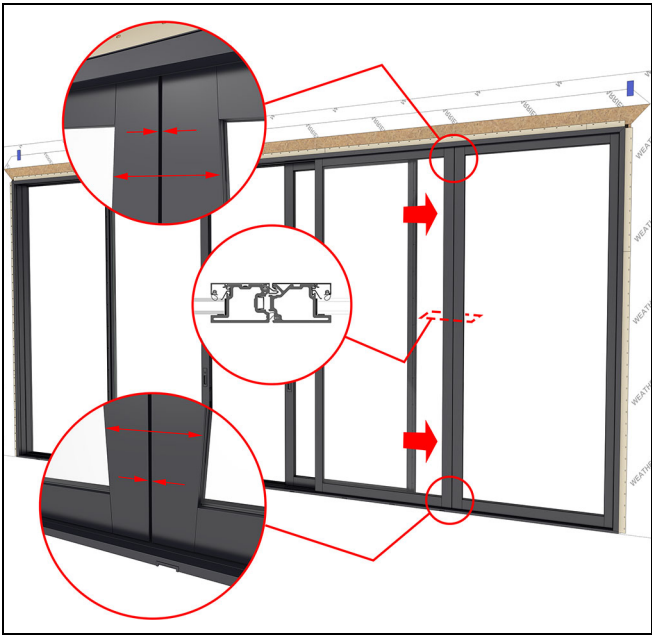

Figure 137
9. Slide the (C) panel over tight against the (H) stationary panel. Check to make sure you have an even reveal along the panel. The gap should be about 1/4" or less. See Figure 137.